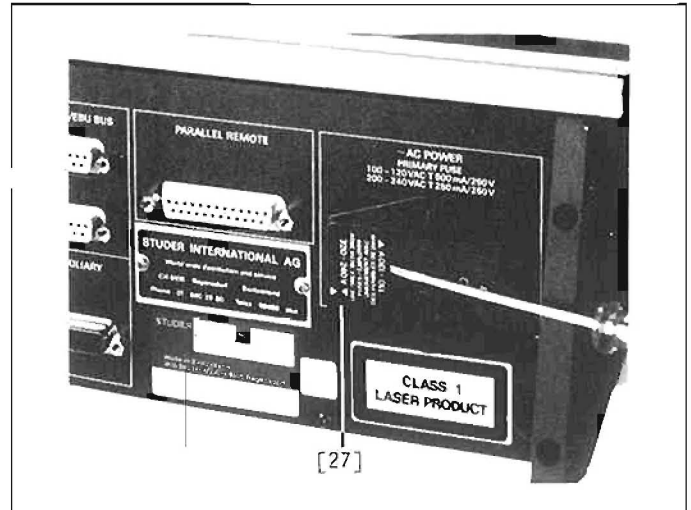

Fig. 2.10
- Switch off machine and disconnect mains cable -> Fig. 2.10
- Remove mains voltage selector (section 2.5.1) The primary fuse is located in this module -> Fig. 2.10